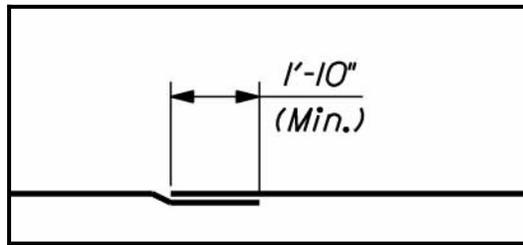

Figure 8-5 Splice Length
- ♫ The “kink” in the bar on the left of Figure 8-5 is a symbol to indicate that the two bars are in physical contact and wired together. It does not represent an actual bend in the bar.